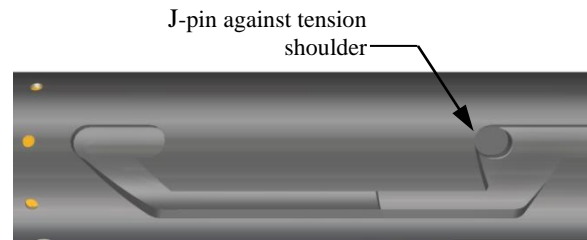

Fig. 8
K-1.19) Position J-pin of J-pin bottom sub (23) on tension shoulder in J-slot of J-body (20) (Fig. 8).